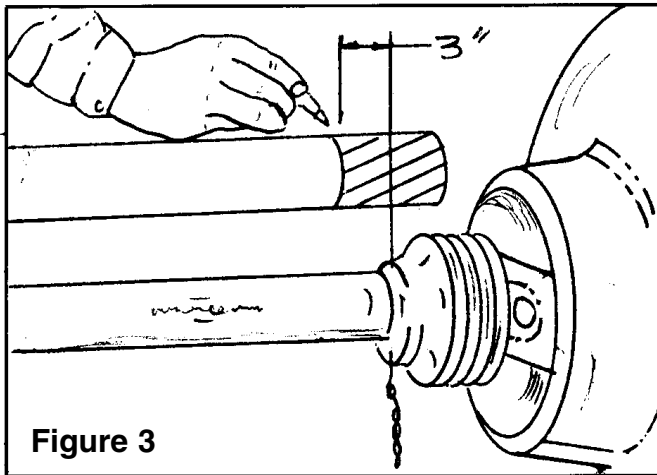

Figure 3
3. Hold driveline sections parallel to each other to determine if too long. Each section should end approximately 3" (76mm) short of reaching universal joint shield on opposite section. If too long, measure 3" (76mm) back from universal joint shield and mark on opposite section (Figure 3). Do this for both sections. **DO NOT CUT UNTIL STEPS 4 AND 5 ARE CHECKED.**